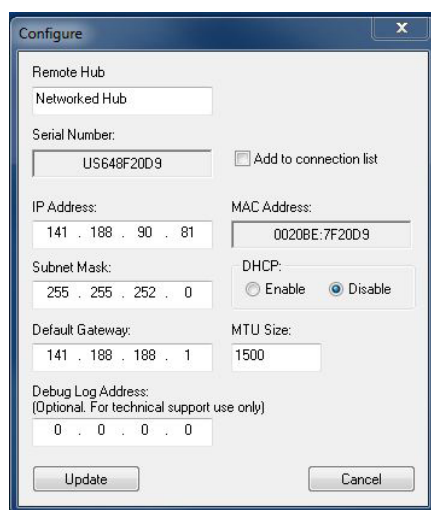

Figure 9. Configuring IP address, subnet mask, and default gateway in the networked hub configuration utility
3. Configure the IP address and subnet mask (See Figure 9).	Enter a device name that easily identifies the networked hub. Enter the IP address and subnet mask (base on the local network configuration).